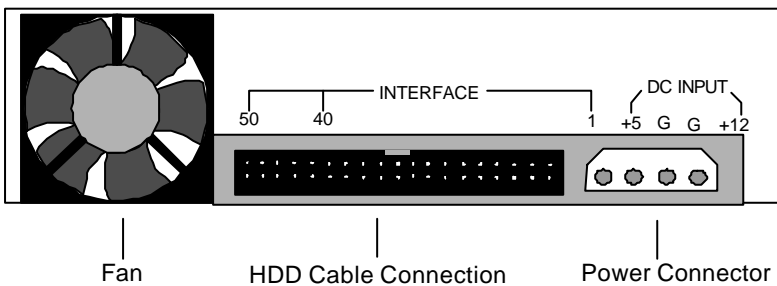

Figure 2-2: SuperSwap Housing Assembly Rearview
5. Connect your PC's IDE hard drive cable to the IDE HDD connector on the back of the housing assembly (see Figure 2-2). Make sure that the red edge of the cable corresponds to Pin 1 of the housing assembly's connector (opposite the fan, and near the power connector; see Figure 2-2).